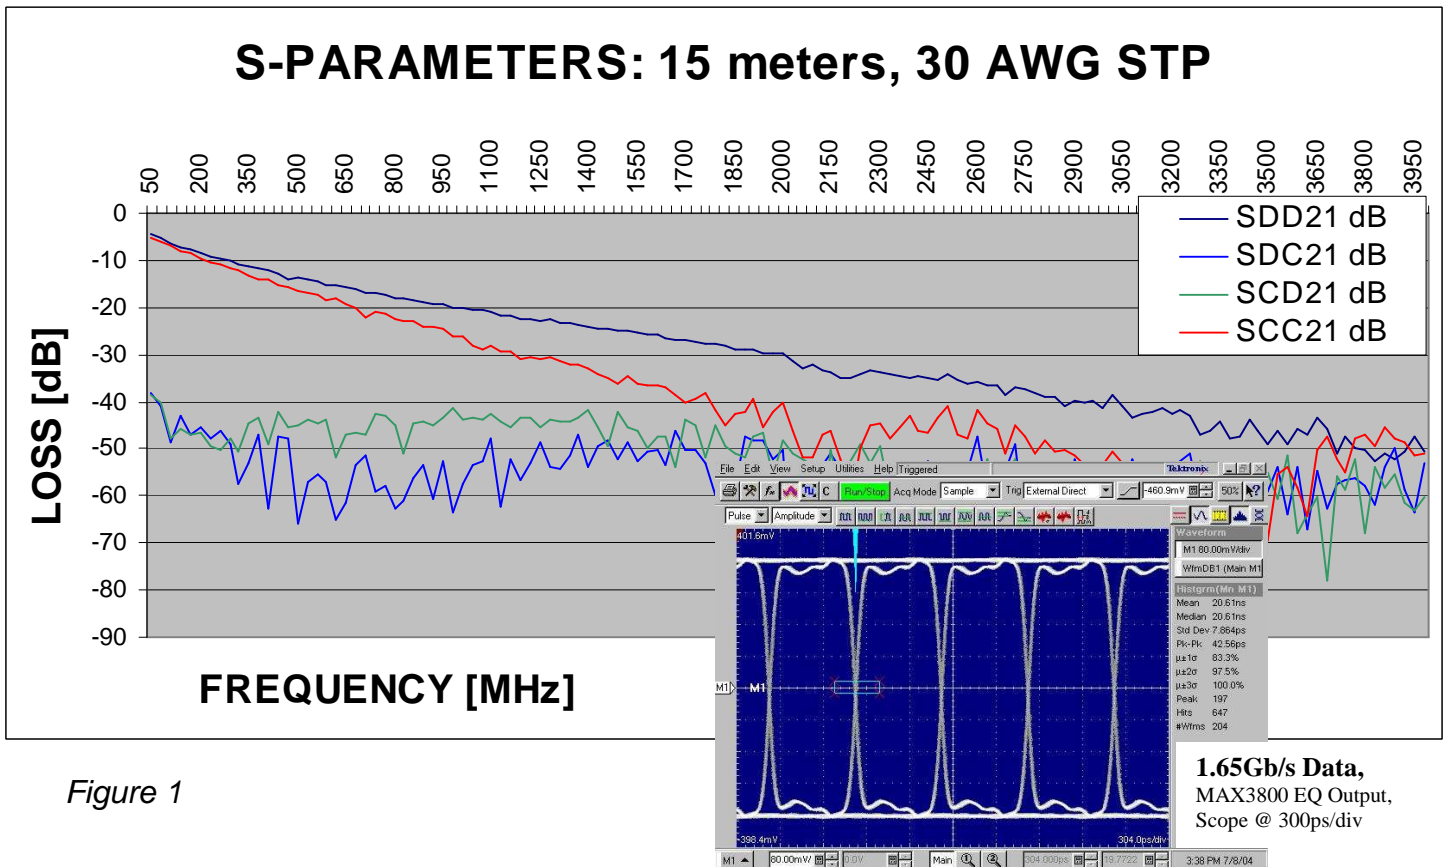
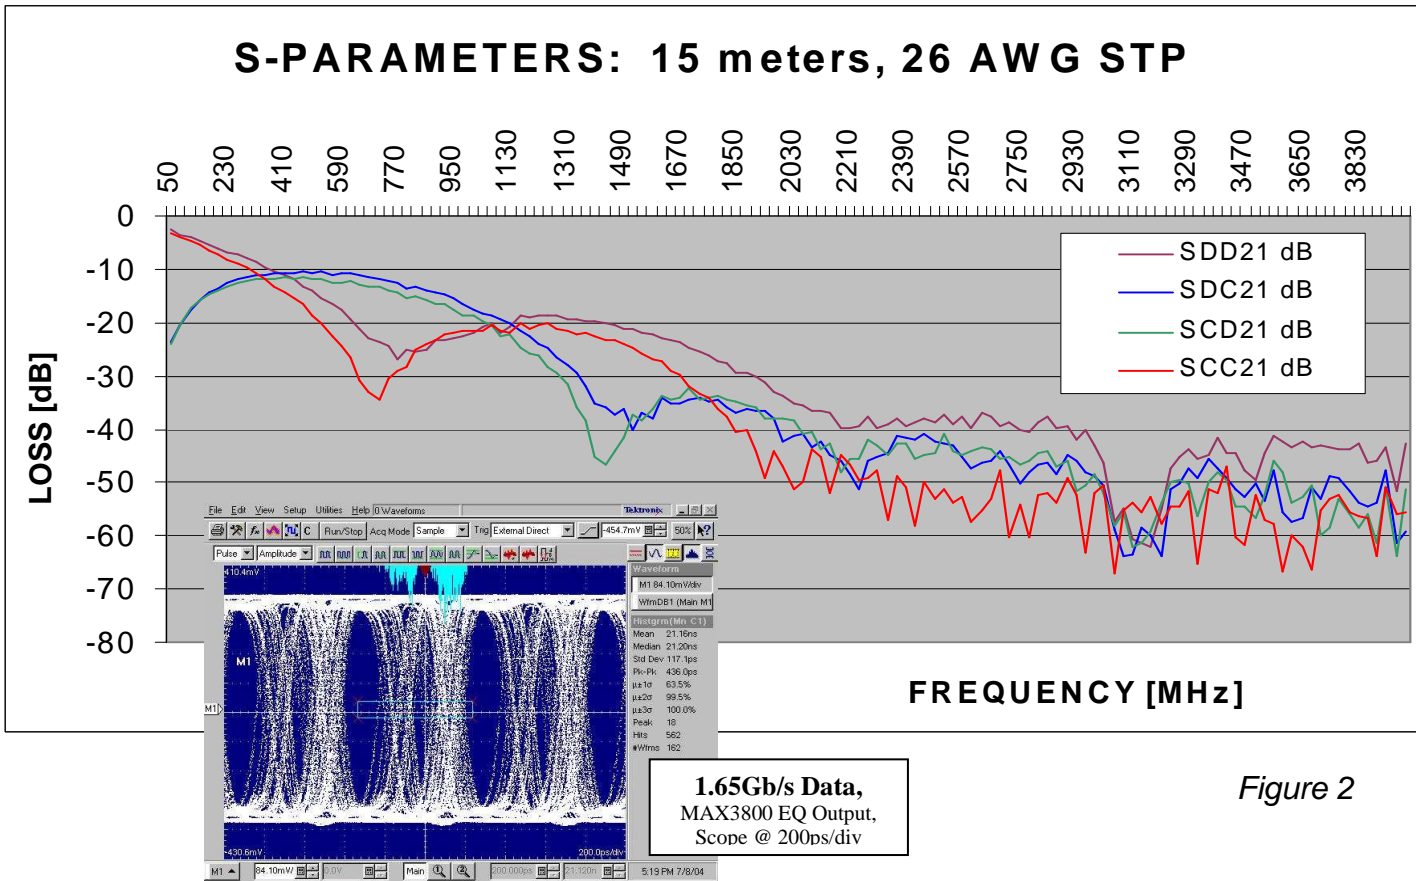

Figure 1
Figure 2
Figures 1 and 2 show 1.65Gb/s DVI signaling over 50 feet (15m) samples of economical STP cable, the first (Fig 1) having excellent performance, and the second (Fig 2) having poor performance. Figure 1 demonstrates textbook skin-effect loss (SDD21) with low differential-to-common-mode conversion (SDC21).
Note the scope photos in Figures 1 and 2 show the state-of-the-art MAX3800 Equalizer compensating 1.65Gb/s data for accumulative skin-effect losses: Superb results are seen in Figure1, but Figure2 clearly shows the deterministic jitter (DJ) remaining after EQ due to severe differential-to-common-mode conversion, a.k.a. intra-pair skew.
Note, however, in coupled differential pairs, the intra-pair skew usually does not behave as simple skew, as was the case with the “ideal” predictable skew of dual coax in the previous section. Unlike the “ideal” dual coax case, coupled differential pairs suffer from dissimilar loss and velocities for the differential-mode and common-mode! For instance, in Figure 1, notice the different loss characteristics for the differential mode (SDD21) vs. the common-mode (SCC21). Since intra-pair skew progressively converts signal energy between these two modes, the end result is no longer an “ideal” delay difference, or skew, at cable end!
Fortunately, there are tactics in the construction of economical cable to mitigate inherent intra-pair skew. One approach is to increase common-mode loss, as compared to differential-mode loss (while maintaining EMI shielding performance). Note, in Figure 1, that the common-mode loss is somewhat greater than the differential-mode loss. Other low-cost cables have been observed with even higher common-mode loss and predictably excellent differential-mode behavior. The construction of the foil shield and dielectric are the root of this behavior.
The objective is the SCD21, or equivalently the SDC21, should be at least 12dB below the primary differential-to-differential response (SDD21) at all frequencies up to bit-rate. You will note this to be true of the 30AWG cable (Fig 1), but violated miserably by the 26AWG cable (Fig 2). The
- c. *“PASS” a cable demonstrating it has output conversion measurement (SDC21) at least 12dB below the expected differential skin-effect loss (SDD21) at both 800MHz and 400MHz, respectively. (i.e., note Figure 1 passes easily, and Figure 2 fails)*
- c. *“PASS” a cable demonstrating it has output conversion measurement (SCD21) at least 12dB below the expected differential skin-effect loss (SDD21) at both 800MHz and 400MHz, respectively. (i.e., note Figure 1 passes easily, and Figure 2 fails)*